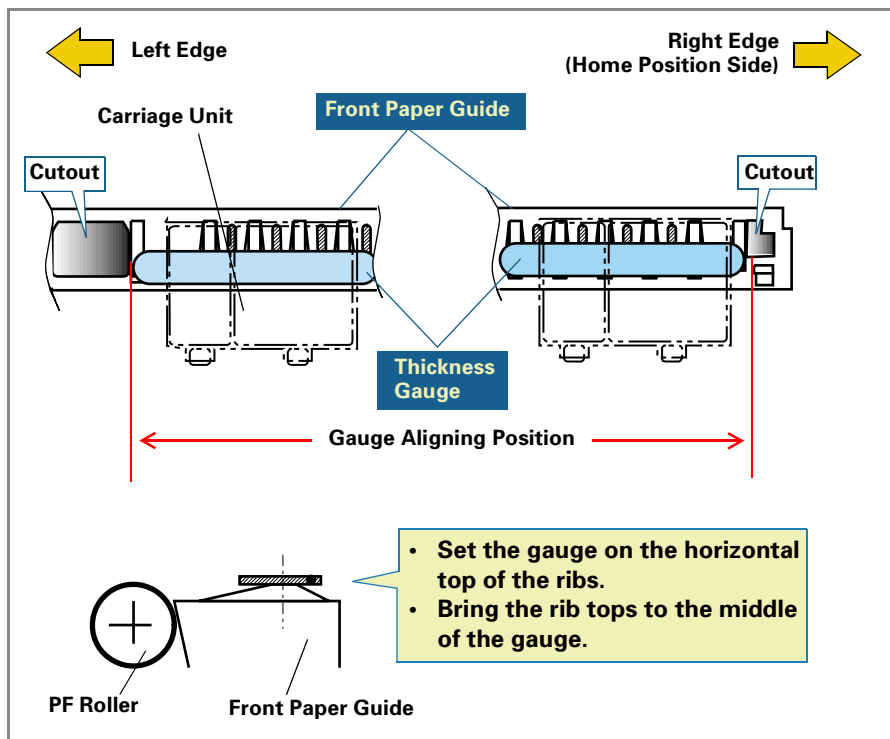

Figure 5-2. Placing the Thickness Gauge
2. Bring the PG lever forward to set it to the (0) position.
4. Bring the carriage to the center of the printer mechanism. Then place the thickness gauges (1.14 mm) on the front paper guide aligning them with the right and left square cutouts in the front paper guide. (See Figure 5-2.)